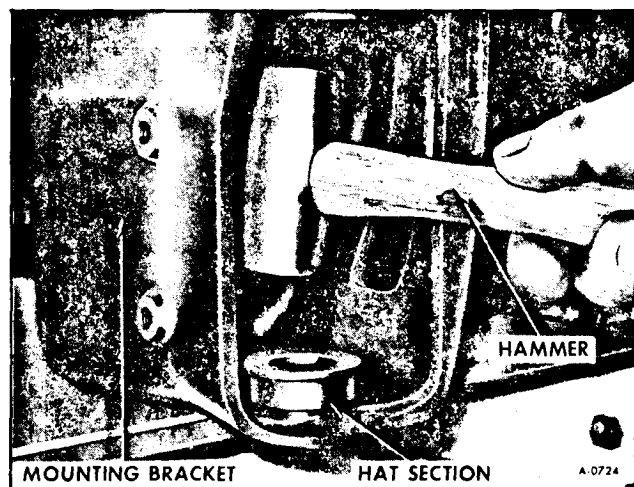

Figure 40—Repositioning Hat Section
1. With the aid of hammer as shown in Figure 40, tap back hat section spacers (2) in mounting bracket to provide more room for control arms in bracket.